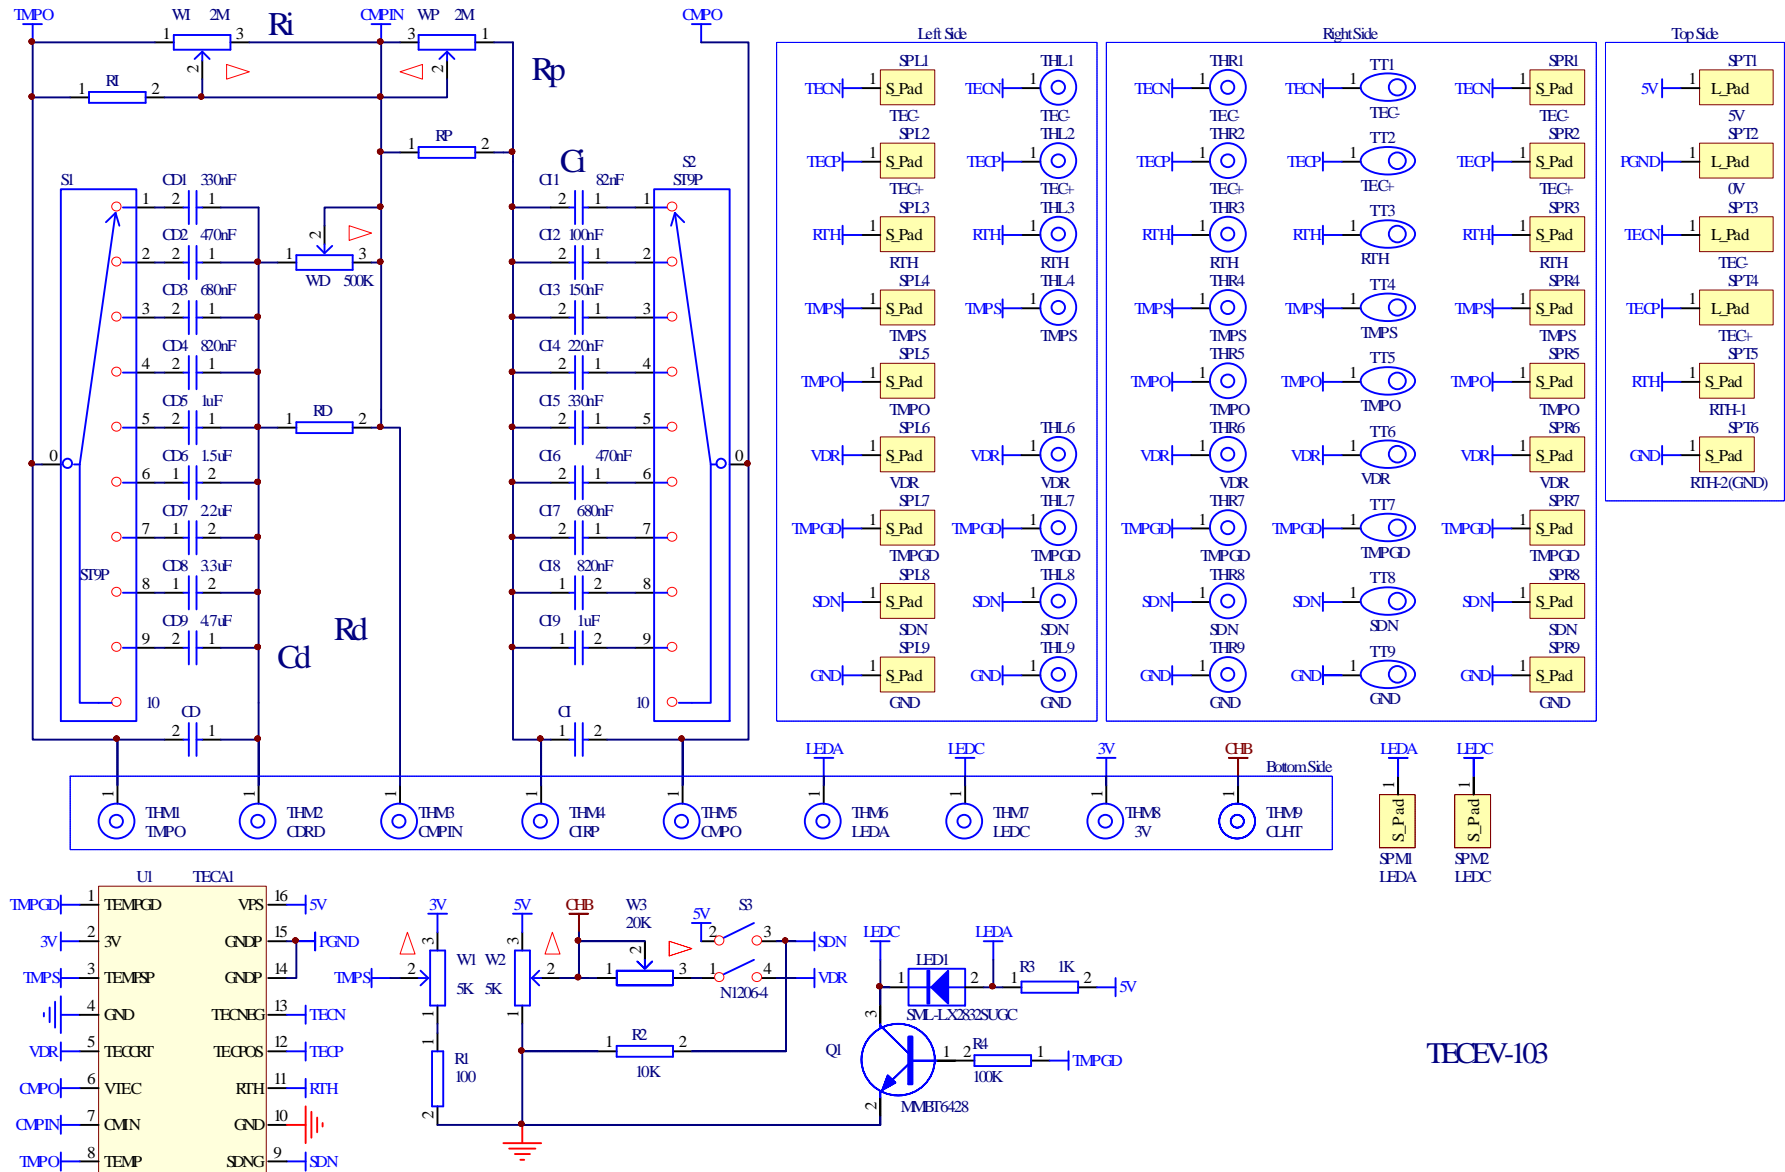

Figure 5 Evaluation Board Schematic
- f. To control the TEC voltage directly by using a DAC, connect VDR to the output of the DAC and use this formula: TEC voltage = 2.5V – VDR (V).
- h. The evaluation schematic is given in Figure 5.